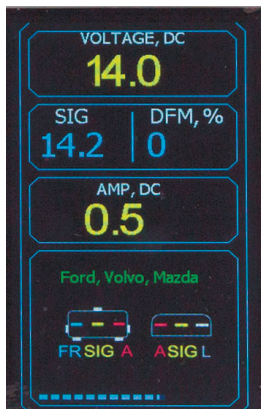

Fig. 17. MS004COM
- **SIG:** indicator of set stabilizing voltage of a voltage regulator (voltage regulators with SIG terminal only) **(Fig. 17)**.